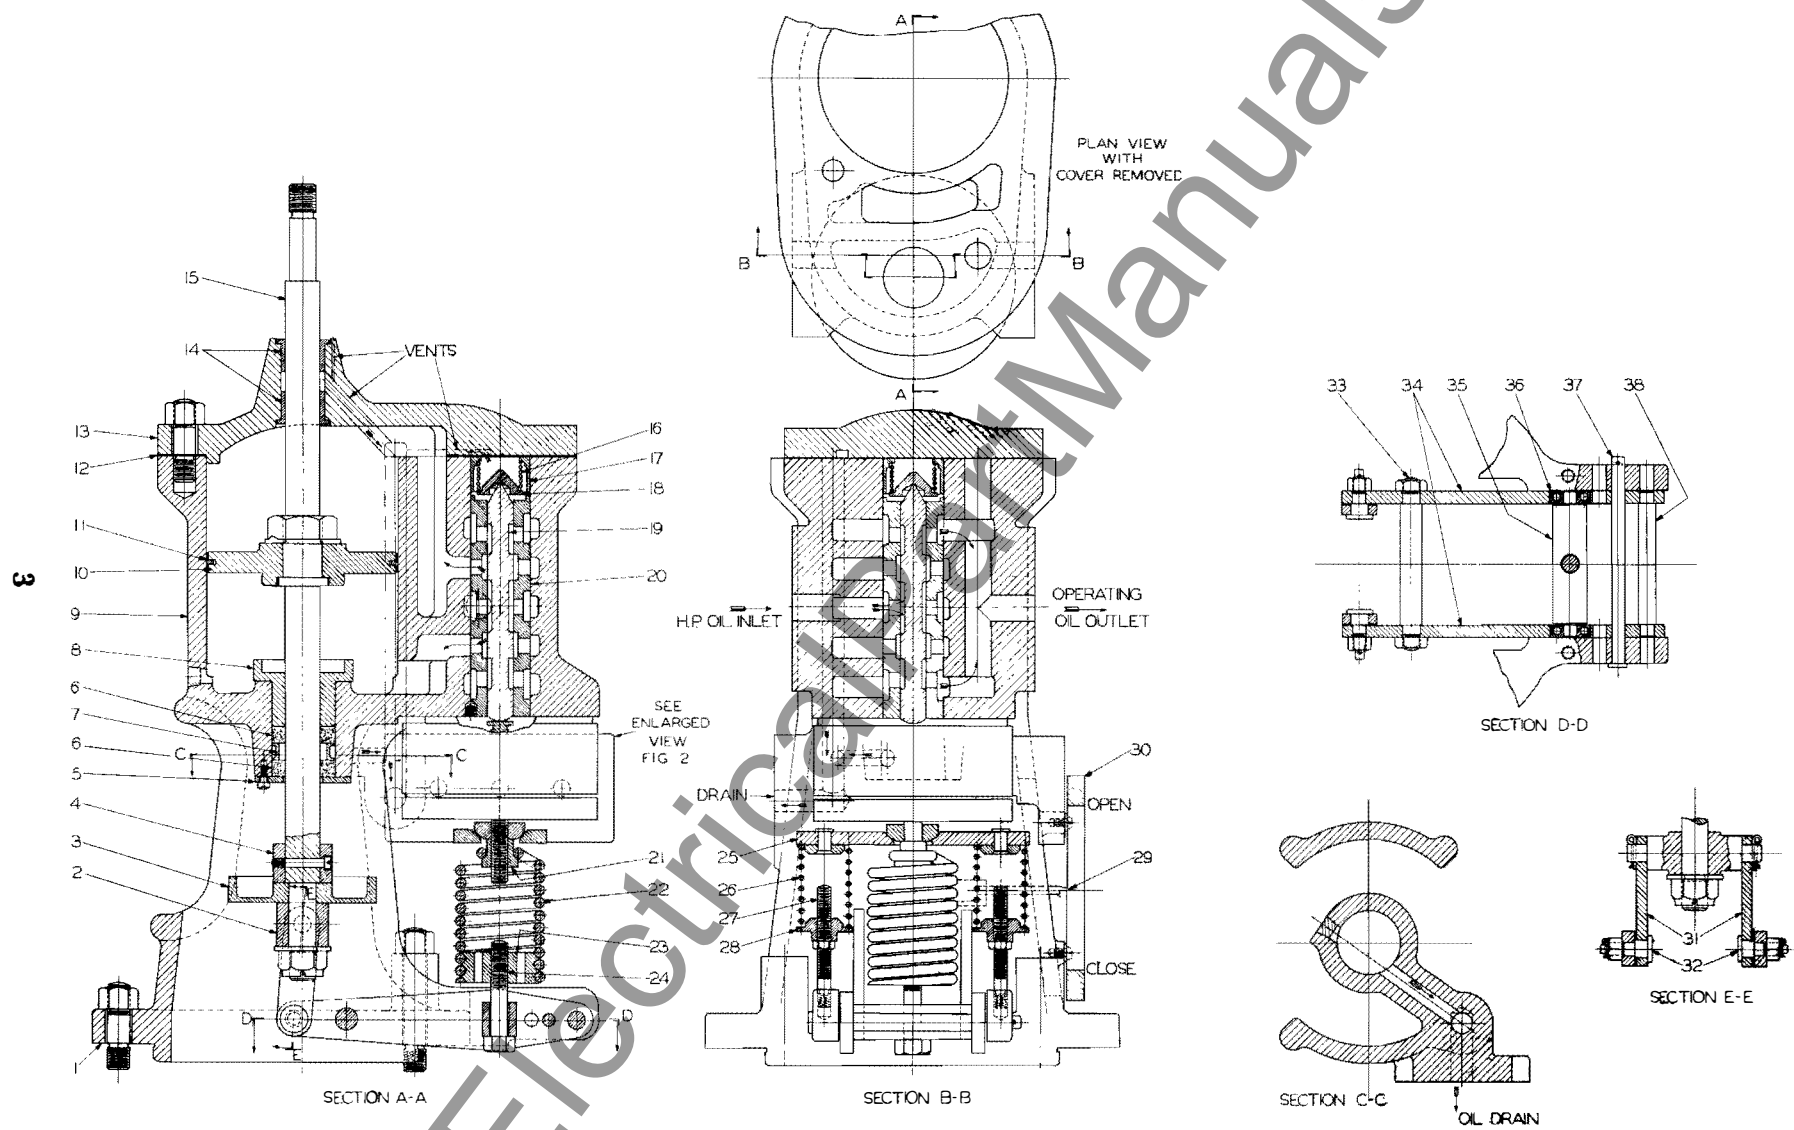

Figure 1
The extraction steam valve servo-motor (or operating mechanism) is shown in Figure 1. It consists essentially of a relay controlled, oil operated piston. The principal parts are: the relay "19", relay bellows "43" and "52", bellows spring "22" and operating piston "10".
As shown in Section "A-A" and "B-B", Figure 1, the chambers above the operating piston and above the relay are vented into a vertical drain passage in order to eliminate any accumulation of air. This same drain passage connects to the space between the oil seal rings "6" and carries away any oil leakage past the upper seal.
Item No.	Name of Part (FIGURE 1)
*Illustrated on Figure 1.